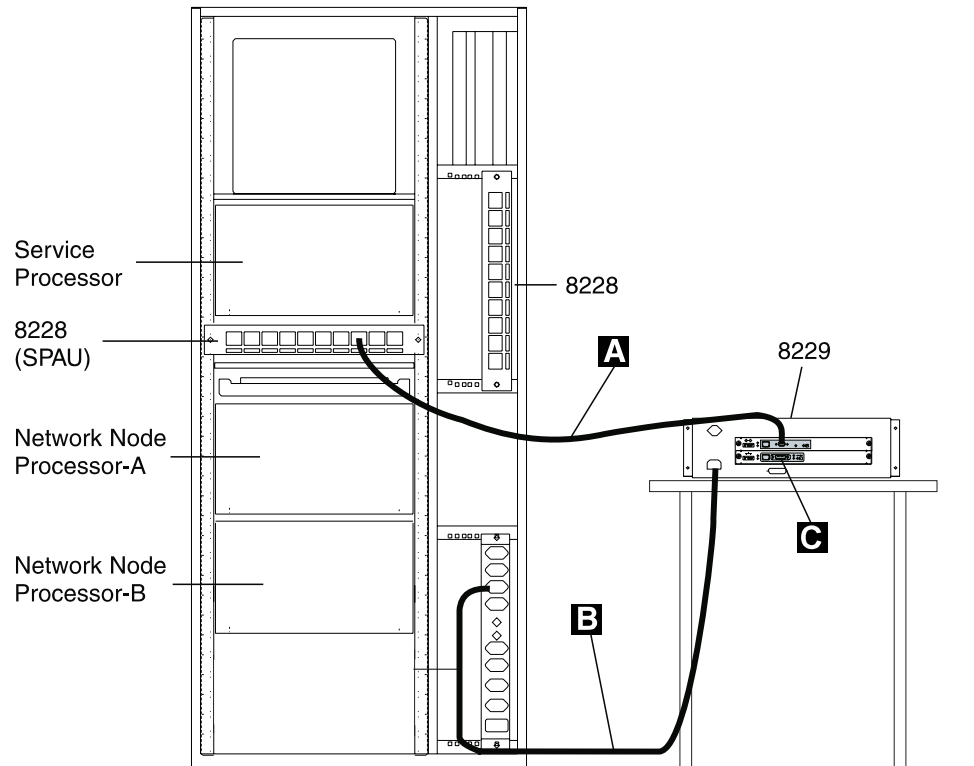

Figure 2-12. Connecting the Ethernet Bridge to the Service Processor
- a. \_\_\_\_ Refer to Figure 2-12 and install the Ethernet Bridge on a table close to the controller expansion
- a. \_\_\_\_ Refer to Figure 2-12 on page 2-11, and disconnect the power cord **B** first from the Ethernet Bridge and then from the ac outlet distribution box.